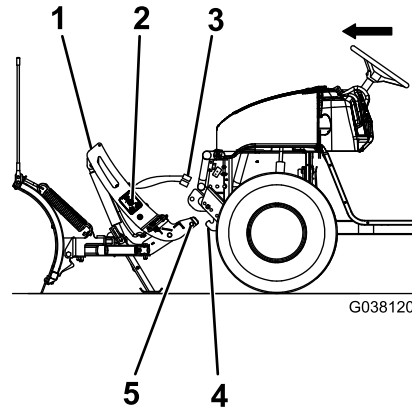

Figure 18
2. Line up the vehicle with the snowplow and drive forward until the lower pin contacts the push-beam pin receiver (**Figure 18**).
- Remove the electrical-plug dust-covers and connect the plow wire harness to the vehicle wire harness (Figure 18).